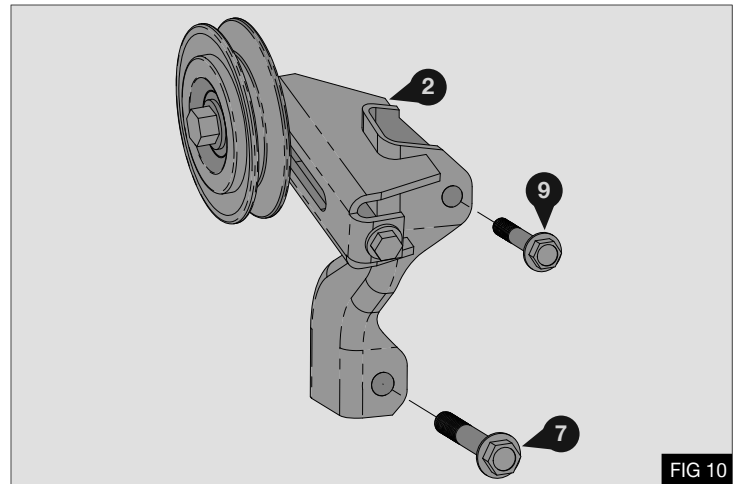

FIG 10
2. Install the belt tensioner assembly (2) using M10x65 bolt (6) and M8x50 bolt (9) - Fig 10